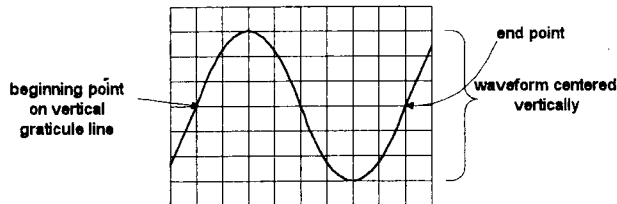

Fig. 8. Sine wave period measurement
4. If accurate waveform frequency or period measurement is to be made, center the waveform vertically. The complete period must be measured from one point or the beginning of the waveform to the same point beginning the next waveform. (see Fig. 8)
For example if the TIME/DIV setting for Fig. 8 is 0.1ms/div then the period is 8 div/cycle times 0.1ms/div = 0.8 ms/cycle. The frequency is then